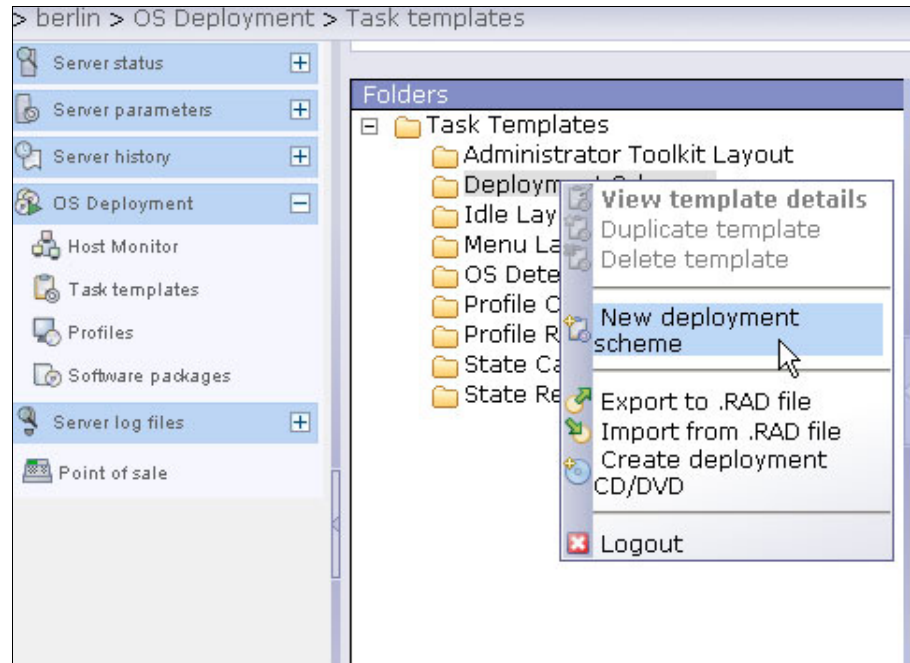

Figure 2-37 Creating a new deployment scheme
1. First, login to the Tivoli Provisioning Manager for OS Deployment console and select **OS Deployment** → **Task Templates** → **Deployment schemes**. Right-mouse-click on **Deployment Schemes** and select **New Deployment Scheme** as shown in Figure 2-37.